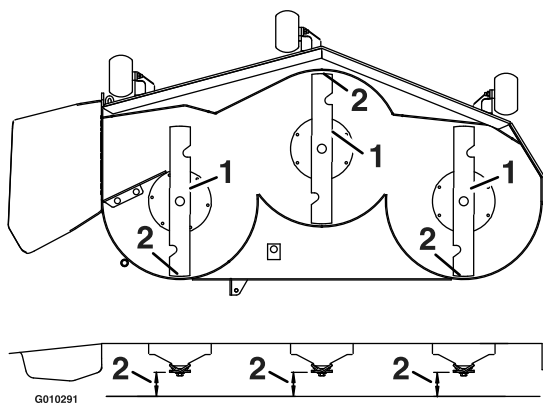

Figure 28
8. Carefully rotate the blades so they are facing front to rear (Figure 28).
9. Measure from the tip of the front blade to the flat surface and the tip of the rear blade to the flat surface (Figure 28). If the front blade tip is not “R” (see Block Height and Rake Table in **Deck Leveling**) lower than the rear blade tip, adjust the front deck hanger.